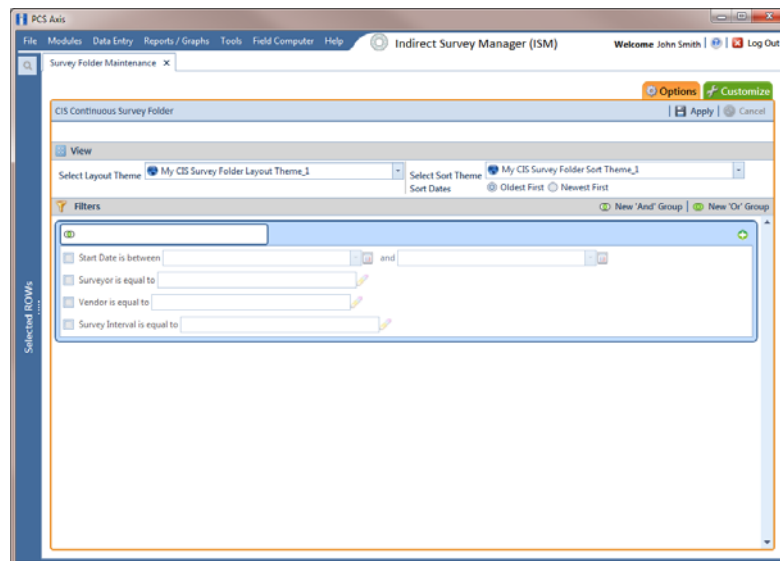

Figure 5-16. Options
- a Click the **Options** tab  to open the options page (Figure 5-16, page 150).